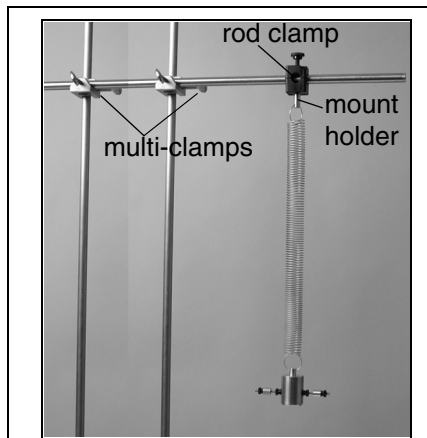

Figure 2: Standalone Setup (without sensors)
To mount the pendulum, perform steps 1-4 below. You will need a stopwatch to record the period of the oscillations. Figure 2 below shows the setup without an interface.
2. Attach a Multi-Clamp to the upper end of each rod (See Figure 2). Slide a 45 (or 90 cm) steel rod through the hole in the Multi-Clamps. Adjust the Multi-Clamps to hold the rod horizontally in place.
(If using the pendulum without an interface, mount a rod clamp to the horizontal rod, screw the brass mount holder (medium-sized cylindrical brass mass) into the bottom hole of the rod clamp, and hook the spring through the hole in the mount holder. See Figure 2.)